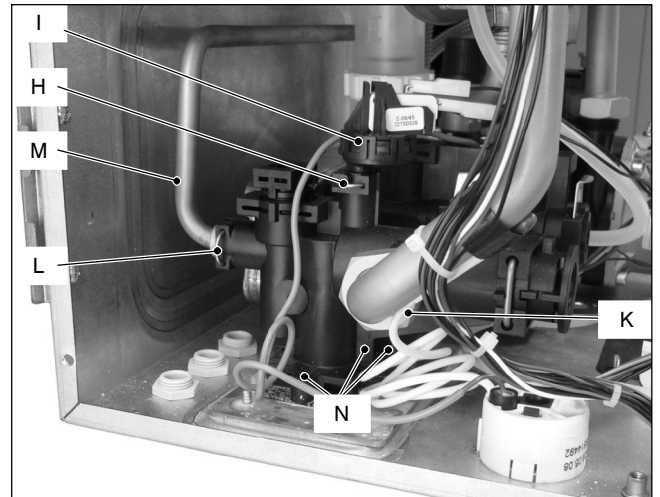

Fig. 8.6
- 4 Remove the fixing spring *H* (Fig. 8.6) and remove the primary circuit pressure switch *I*.
- 6 Unscrew the connector *K* (Fig. 8.6), the c.h. flow connector and the d.h.w. outlet connector.
- 8 Remove the fork *L* and move away the pipe *M* (Fig. 8.6).
- 9 Unscrew the screws *N* and remove the diverter group (Fig. 8.6).